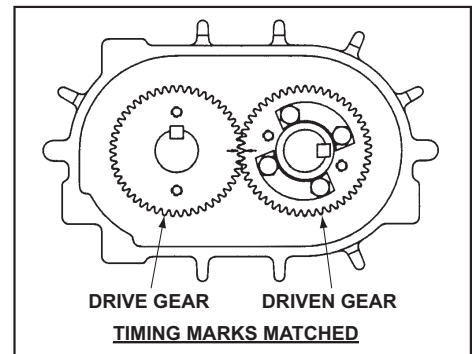
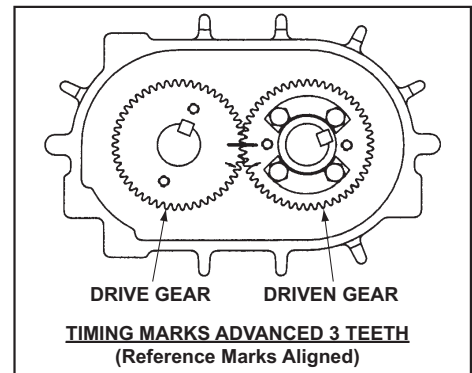

Figure 4A. Timing Marks
Figure 4B. Timing Marks
8. Align timing marks on gears (Figure 4A). Rotate drive gear clockwise approximately three teeth and mark a matching reference line on each gear as shown in Figure 4B. This gear position is necessary so rotors will clear and not jam. Do not allow the gears to move from the matched reference line while pulling. Use a light rocking motion to insure that the lobes have not jammed. Remove driven gear first, and then drive gear.
7. Lubricate shafts and keys and press drive gear (right hand helix) on drive rotor. To install driven gear, align reference marks as shown in Fig. 4B. Tap gear with mallet to start, then press the gear until seated.